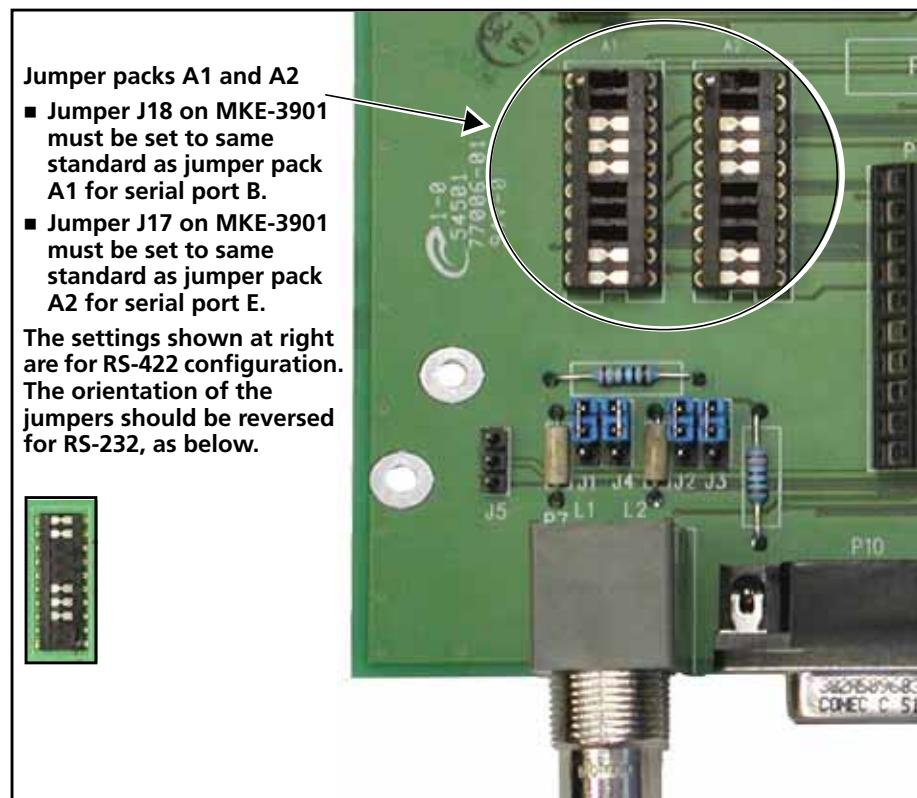

Figure 2-34 Jumper Packs on ICONM-BO-V (in RS-422 Mode)
Jumpers **J17** on the MKE-3901 must be set to the same standard as jumper pack **A2**. For more information see Figure 2-34 on page 37 and Table 2-9 on page 39.
Jumpers **J18** on the MKE-3901 must be set to the same standard as jumper pack **A1**. For more information see Figure 2-34 on page 37 and Table 2-9 on page 39.
- 1 Locate jumper packs **A1** and **A2** on the ICONM-BO-V module, as shown in **Figure 2-34**. **Figure 2-34** shows both serial ports in RS-422.